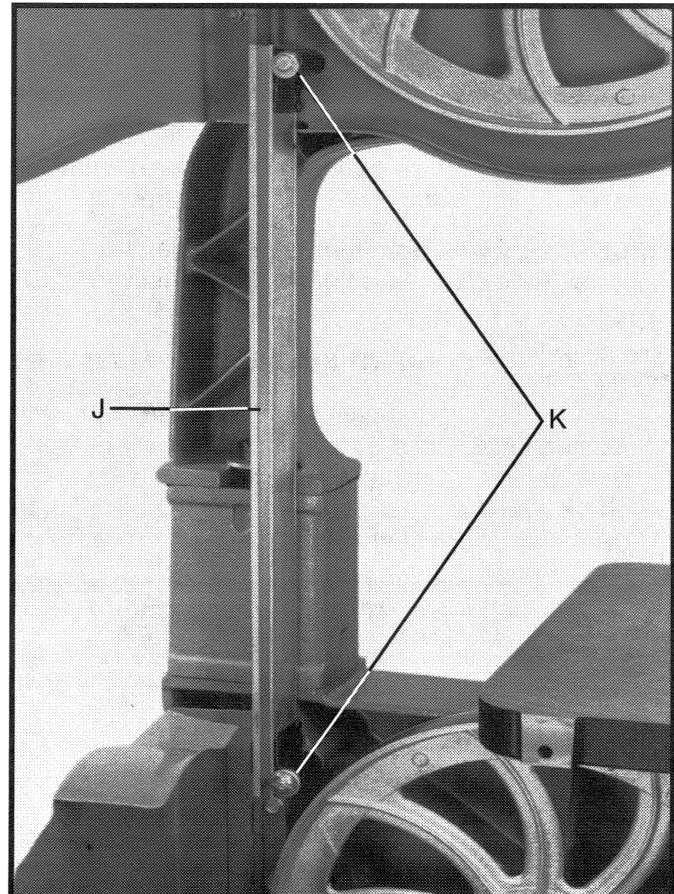

Fig. 8
7. Attach the new guard (J) Fig. 8 to the upper and lower arms using the hardware (K) that was removed in STEP 1.